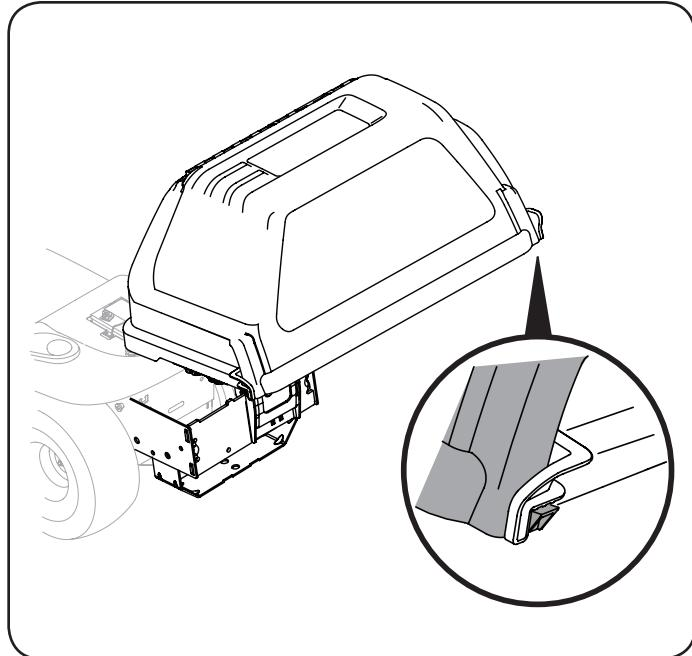

Figure 16
5. Swing the upper grass catcher cover down to close the attachment. pushing in on the rear right-side and rear left-side tabs and lock them into place under the notches on each side. Ensure a secure, snug fit. See Figure 16.